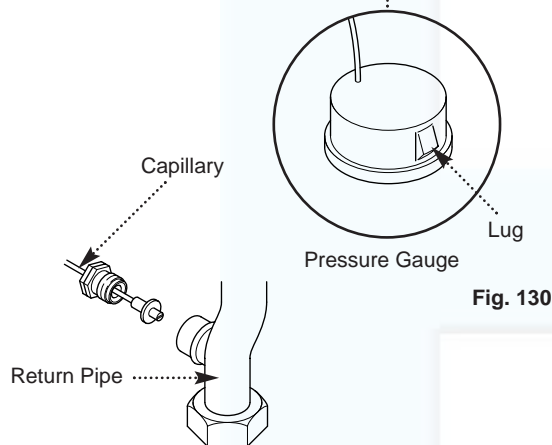

Fig. 130
5. Press in the two lugs on the gauge body, and pass the gauge and capillary through the facia (Fig. 130).